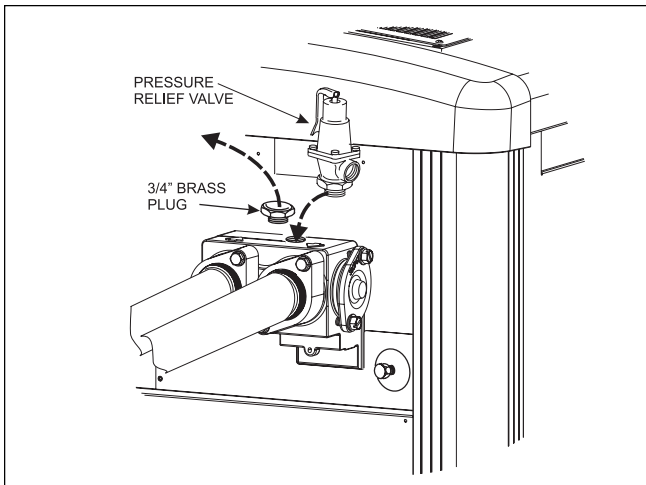

Figure 16. PRV Installation and Thermometer Location for Temperature Rise Test
1. Remove the 3/4 inch (19 mm) brass plug located on the top of the inlet/outlet header (see Figure 16).